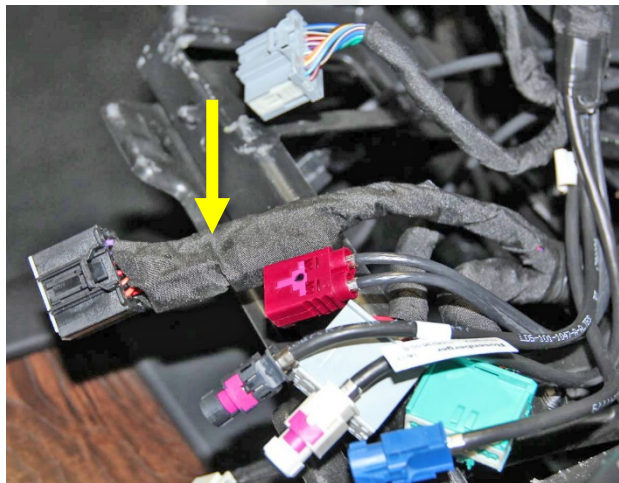

Figure 7
7. Wrap the harness and ferrites with harness tape to secure the ferrites in place and avoid noise and vibration issues (Figure 7).